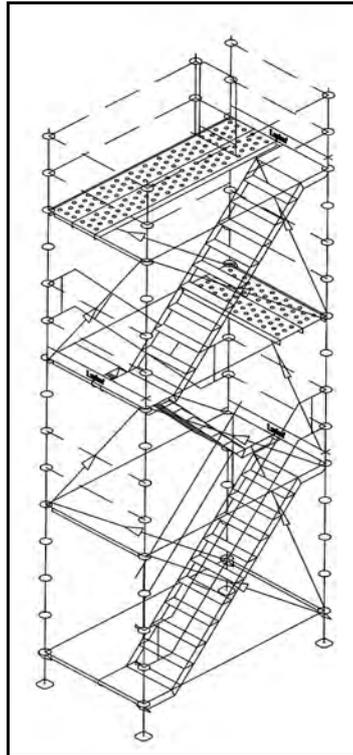

FIGURE 9.
17. For the construction of the top lift see figures 9,10 & 11 Layout is variable to suit different exit points and variable parts: I.e. either gate closer & extending ledgers or 2 x console brackets.